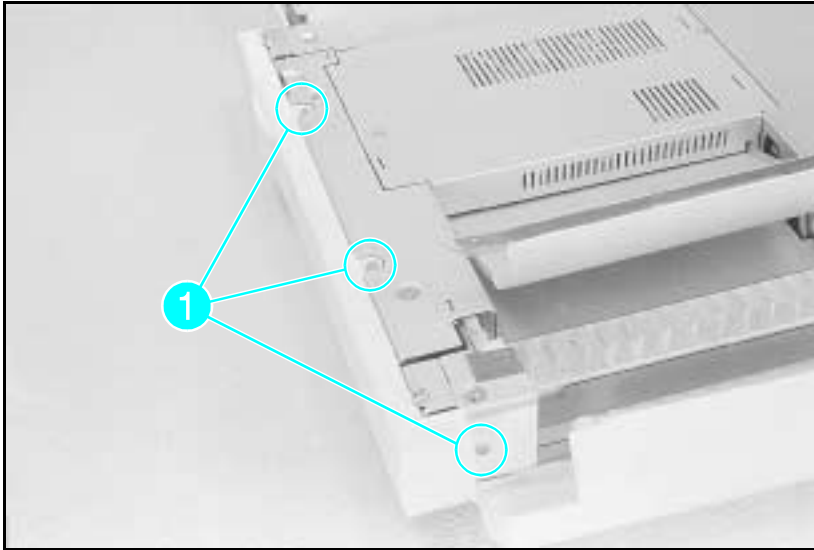

Figure A-7 **Side Cover on Gear Side**
- 1** Remove the (2) screws on top and the (1) screw on the front (see Figure A-7, callout 1).